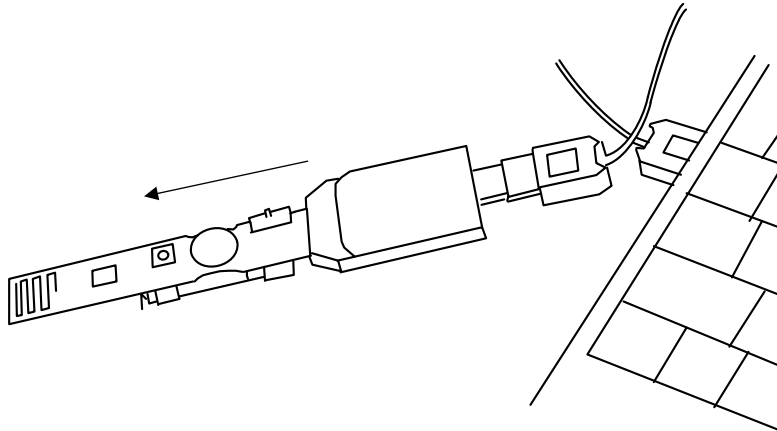

Figure 17. Remove Node Board from Toolstick Adapter
8. Remove the Node board from the ToolStick Debug Adapter as shown in Figure 17.